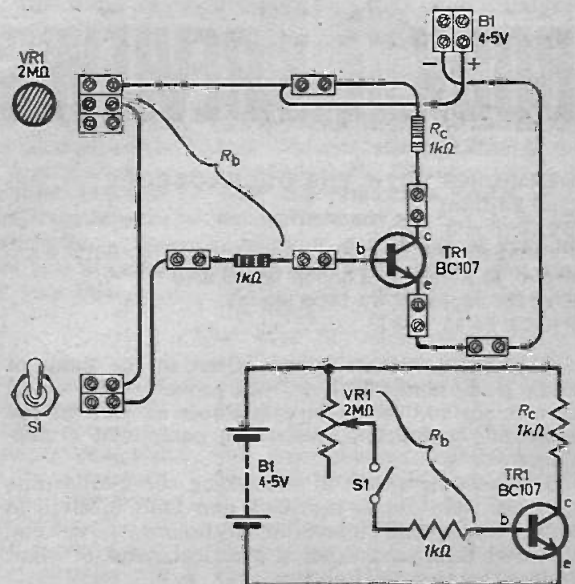

Fig. 6B.1. Wiring up connections on the Circuit Deck and theoretical circuit diagram from experiment 6B.
1. Connect up the components on the Circuit Deck as shown in Fig. 6B.1. Leave the switch turned off, and turn the potentiometer fully anticlockwise (maximum resistance.)